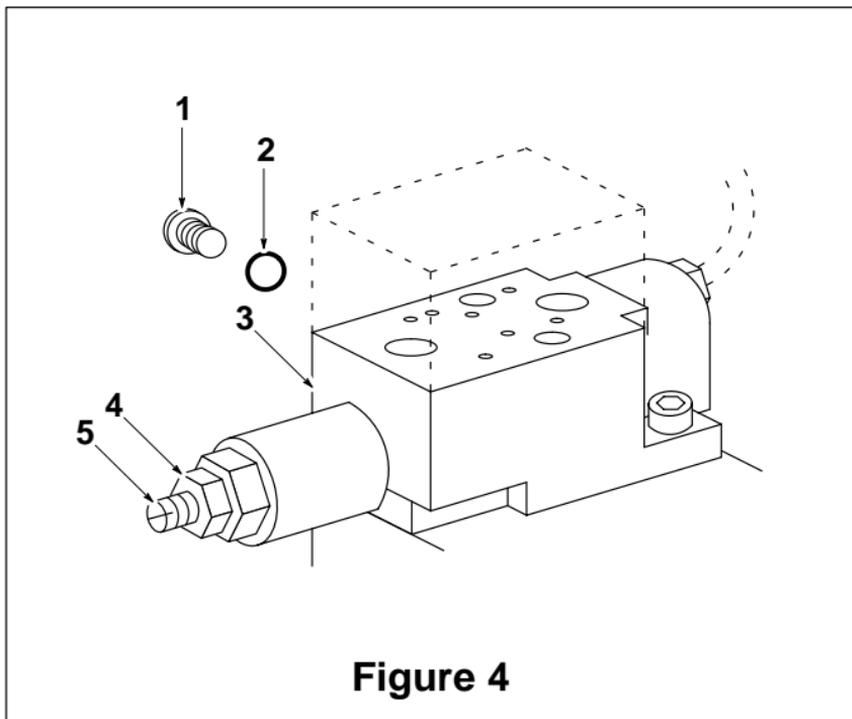

Figure 4
9. Adjust external relief valve to obtain desired system pressure. For correct adjustment of IC compensator (3), pump outlet pressure must be at least 140 bar (2000 psi) (see figure 4).